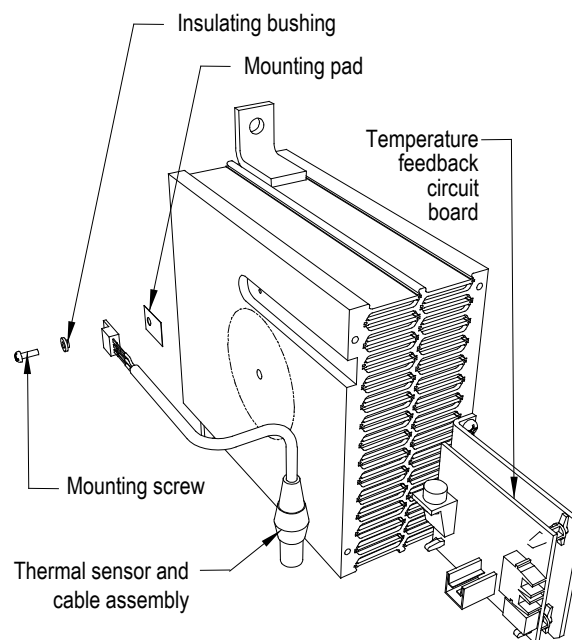

Figure 6.21 – Replacing the Heat Sensor
11. Note there is a small voltage difference between the thermal sensor and its heatsink. For proper function, it is essential to mount the small insulating pad between the thermal sensor and the heatsink and the insulating bushing between the thermal sensor mounting screw and the thermal sensor (see Figure 6.21).